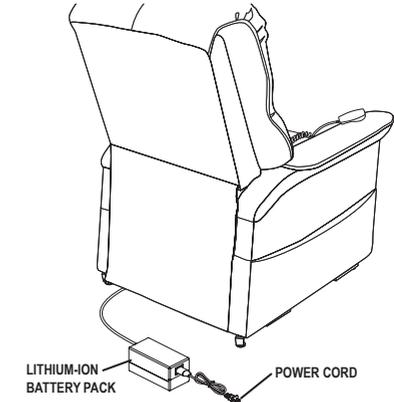

Figure 4.3.1 Lift Chair Battery Back Up Location
2. Position the external transformer so that the lithium-ion battery is facing upward. (Figure 4.3.1)